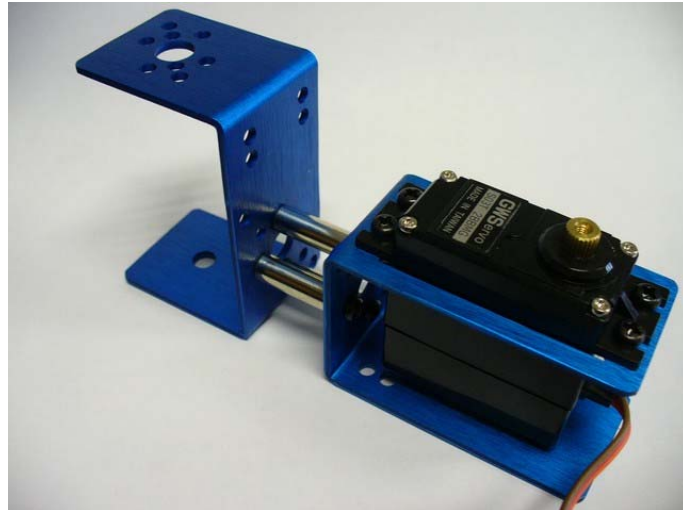

Figure 7 The servo motor #4 is attached to the connect R-joint servo.
5. Connect another pair of R-joint servo (Item 3) with four 20-mm PCB stands (Item 7) as shown in Figure 7. Put in a brass boot, and then attach the servo motor #4 (Item 1) to the U-shape of the R-joint servo.